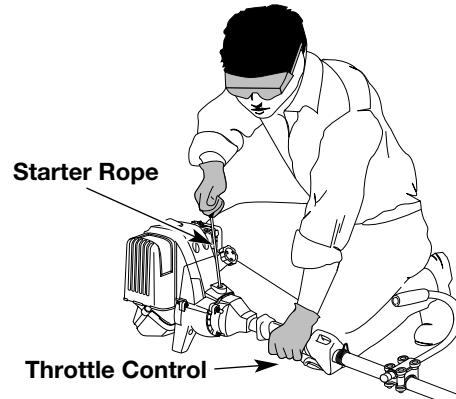

Fig. 10
7. With the unit in the starting position (Fig. 10) pull the starter rope briskly 5 times in the **FULL** choke (A)  position. If the engine attempts to run before the fifth pull, proceed to step 8.
5. With the unit in the starting position (Fig. 10), pull the starter rope briskly until the engine starts.
6. When the engine starts, move the choke lever to the **RUN (C)**  position, and run at full throttle for 30 seconds.
1. Release your hand from the throttle control (Fig. 10). Allow the engine to idle.